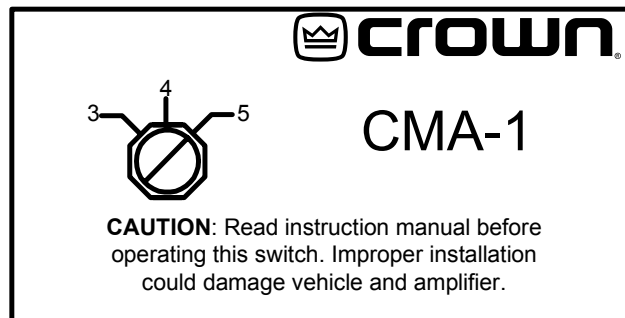

Fig. 6 Switch Position for 5 CH Operation
2. Set the amplifier switch to 5 CH as in **Figure 6**. This provides the following output powers: